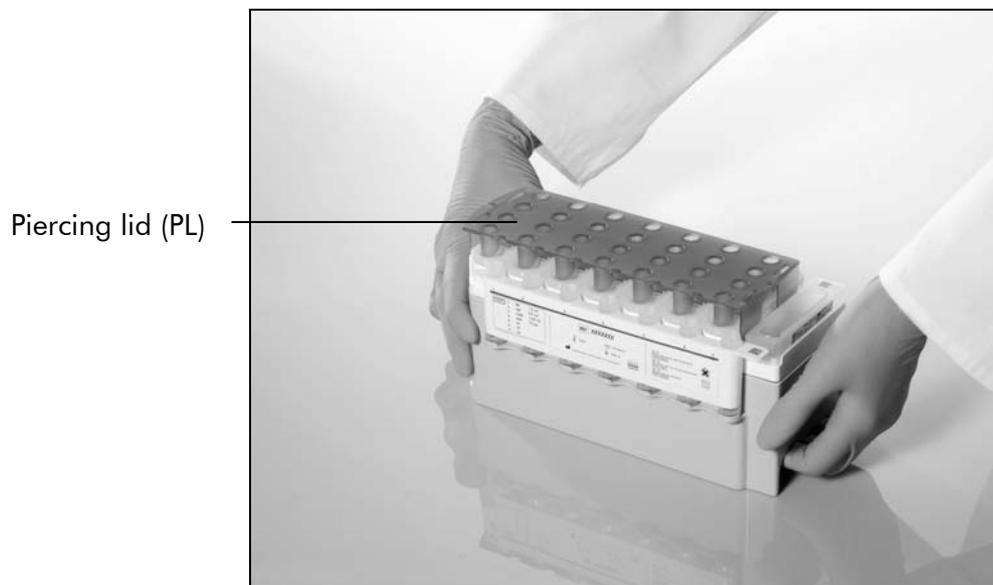

Figure 6. Easy worktable setup with reagent cartridges (RC).
Before starting the procedure, ensure that the magnetic particles are fully resuspended. Remove the magnetic-particle trough from the reagent cartridge frame, vortex it vigorously for at least 3 minutes, and replace it in the reagent cartridge frame before the first use. Place the reagent cartridge (RC) into the reagent cartridge holder. Place the enzyme rack (ER) into the reagent cartridge holder. Before using a reagent cartridge (RC) for the first time, place the piercing lid (PL) on top of the reagent cartridge (RC) (Figure 6).